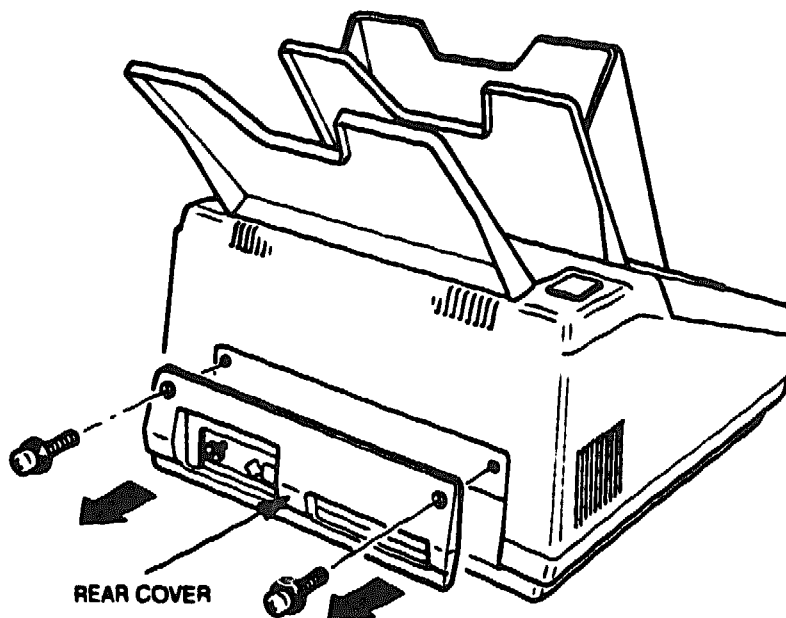

Figure 6-9 Rear Cover Removal
2. Remove the two rear cover screws and lift off the rear cover (see Figure 6-9).